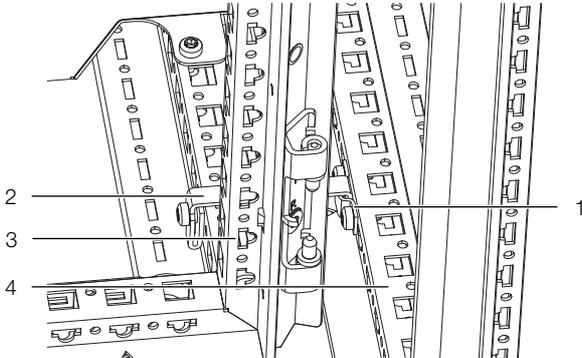

Fig. 35: Connection element in the rear area VX/VX
- Likewise, before baying, fit the bracket (fig. 35, item 1) required for the connection component to the VX IT server rack.
■ Next, insert a connection component (fig. 35, item 2) in the rear section between the frames of the LCP Inline Protruding and the server rack.